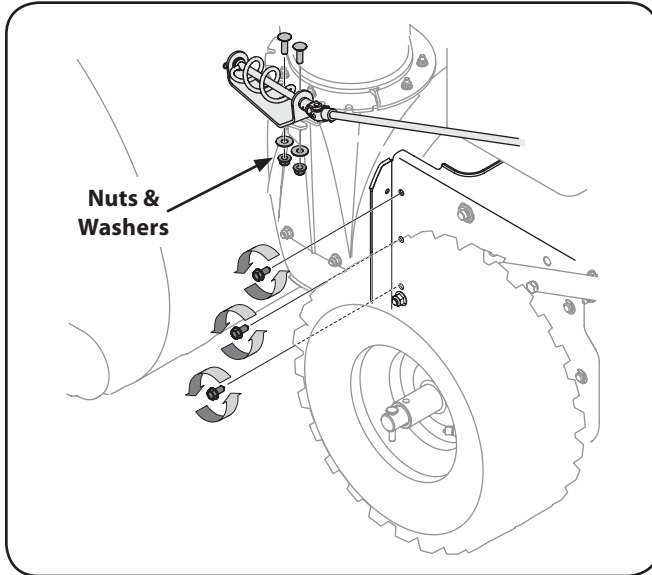

Figure 7-1
1. Disconnect the chute crank assembly by removing the two nuts which secure the chute bracket to the chute adapter. See Figure 7-1.